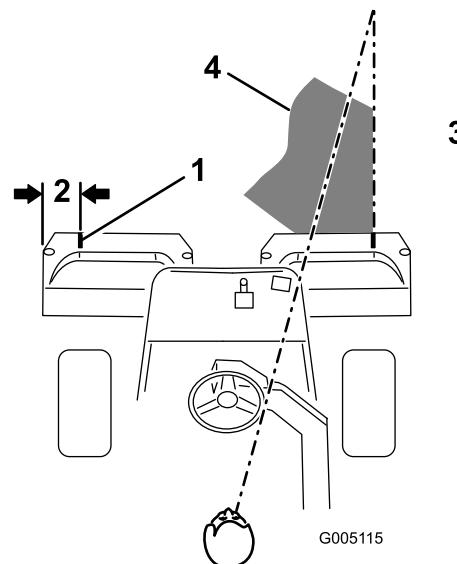
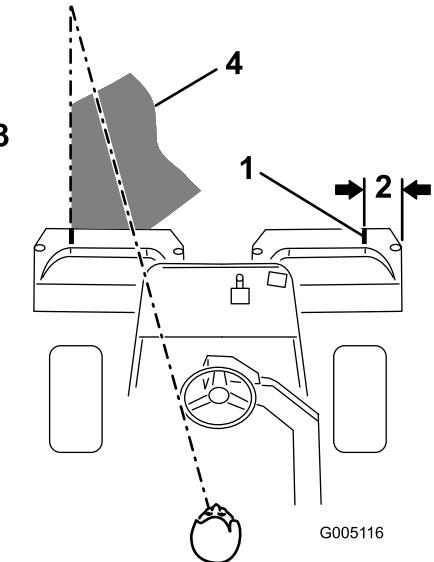

Figure 30
Figure 31
2. Either place a strip of white tape or paint a line onto each basket paralleling the outer edge of each basket (Figure 30).
- Overlap a minimal amount with the previous cut on return passes. To assist in maintaining a straight line across the green and keep the machine an equal distance from the edge of the previous cut, establish an imaginary sight line approximately 1.8 to 3 m (6 to 10 ft) ahead of the machine to the edge of the uncut portion of the green (Figure 30 and Figure 31). Some find it useful to include the outer edge of the steering wheel as part of the sight line; i.e. keep the steering wheel edge aligned with a point that is always kept the same distance away from the front of the machine (Figure 30 and Figure 31).